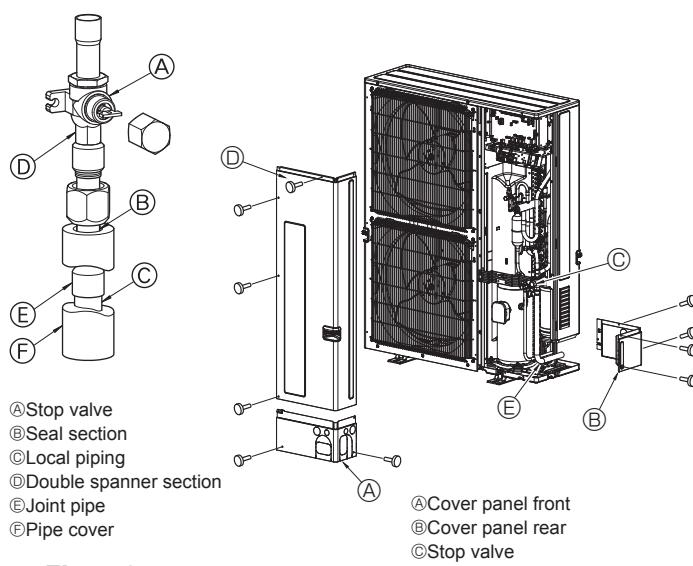

Fig. 4-3
- Use the following procedure for connecting the gas-side piping. (Fig. 4-3)
- 1 Braze the ④ Joint pipe provided to the outdoor unit using locally procured brazing materials and ⑤ Local piping without oxygen.
- 2 Connect the ④ Joint pipe to the gas-side Stop valve. Use 2 wrenches to tighten the flare nut.